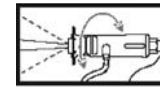

Figure 11
4. Twist nozzle cover to adjust spray pattern from jet to wide fan spray (Figure 11).